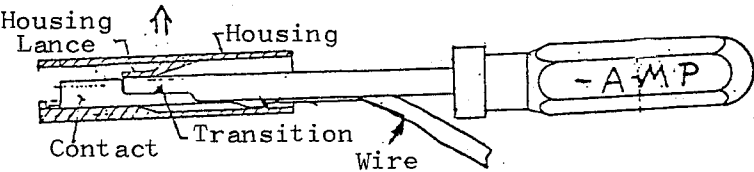

Fig. 3
- (b) With the tip ends resting on the transition of the contact, move up to release housing lance, so that the contact can be pulled out as you withdraw the tool with the contact. Refer to Fig. 3.